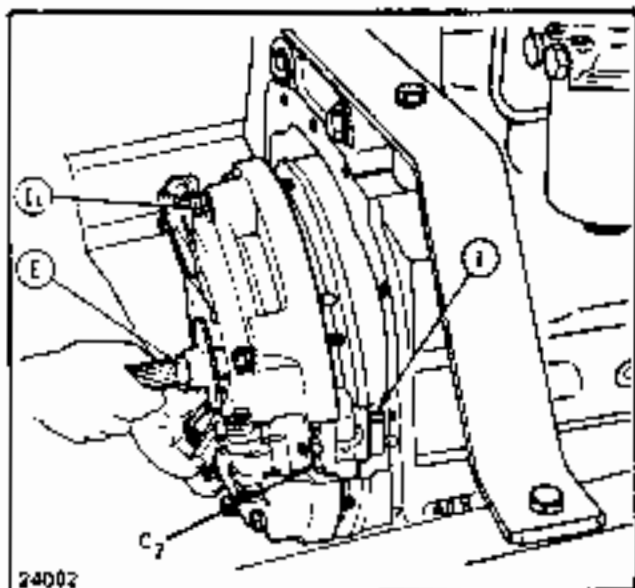
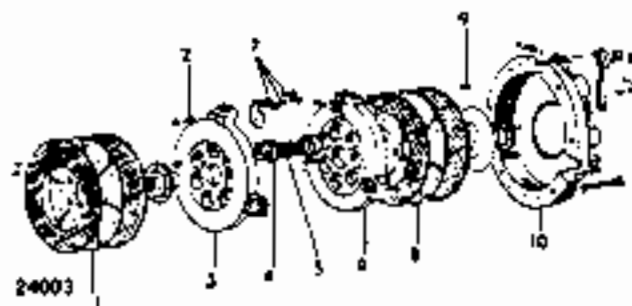
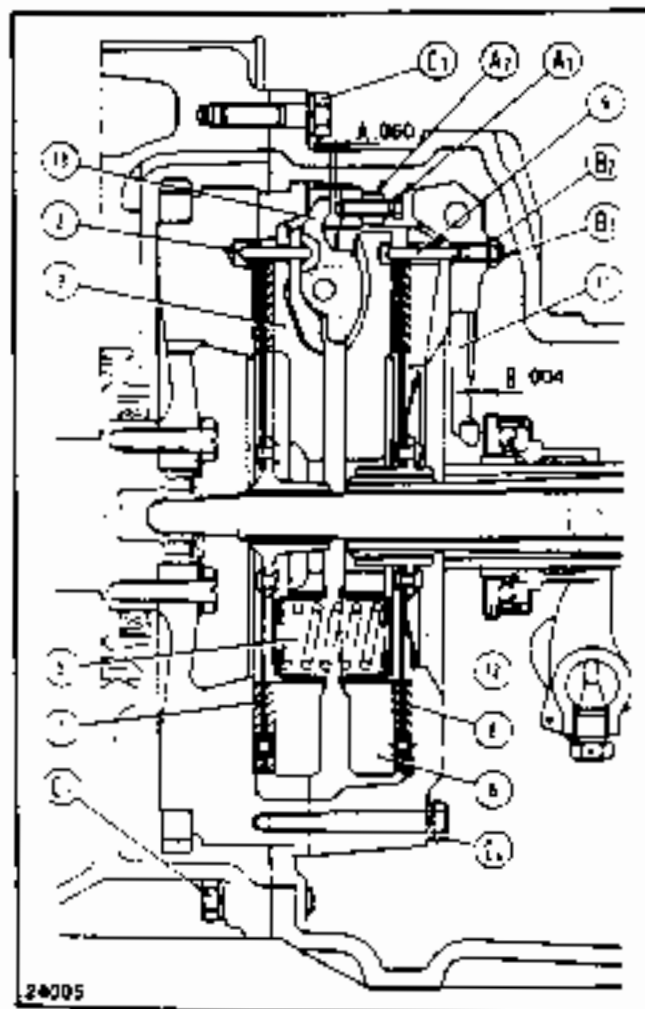

FIG. B.114 REMOVING (REPLACING) THE 10" CLUTCH FROM THE ENGINE FLYWHEEL USING THE ALIGNMENT PILOT
FIG. B.115 EXPLODED VIEW OF THE 10" CLUTCH
FIG. B.116 10" CLUTCH CROSS-SECTION
7. Remove all attaching cap screws (Items C₁ and C₃, Fig. B.116) and move the engine front axle unit forward, separating it from the transmission housing and then placing it on a shop stand (Fig. B.114) after suitably wedging the front wheels.
Remove, in alternate order, four of the six attaching cap screws (Item C₁, Fig. B.114) and loosen the remaining two screws.
Introduce the clutch alignment pilot (Item E, Fig. B.114) inside the clutch shaft locations.
pressure plates (Items 3 and 6, Fig. B.115), P.T.O. clutch release lever screw plates (Item 7) and clutch cover (Item 10) in order to ensure the correct positioning of the parts in their original locations at reassembly thus maintaining the dynamic balance as set at the factory.
1. Place on a bench the clutch unit without P.T.O. plate (Item 1, Fig. B.115) and push rods (Item 2).
2. Gradually and in succession, unscrew the cap screws (Item C₁, Fig. B.114) of the pressure plates (Items 3 and 6, Fig. B.115) to unload the springs (Item 5) which are compressed between these two plates.
3. Then dismantle the clutch (Fig. B.115).
1. Functional efficiency of the disc friction linings (Items 1 and 8, Fig. B.115) and conditions of mating metallic surfaces. The latter are polished, if necessary. If the discs are impregnated with oil it is best to replace them, as washing in solvent and brushing are not enough.
Prior to assembly, lubricate the following items with a film of lithium-base grease: transmission clutch release lever pivots, the ball heads of the clutch release rods (mainly to hold them in place at assembly), the outer surfaces of the forks of the pressure plates (Items 3 and 6, Fig. B.115) and the inside surface of the fork locations on the clutch cover (Item 10).
1. Place the pressure plate (Item 3, Fig. B.115), adjusting screw (Item 7) supporting plate, pressure plate (Item 6) and the clutch cover (Item 10) in their original positions arranging them with their assembly marks (scribed at disassembly) in register.
3. Tighten the attaching cam screws (Item C, Fig. B.114) to the torque value specified in the "Torque Specifications" table.